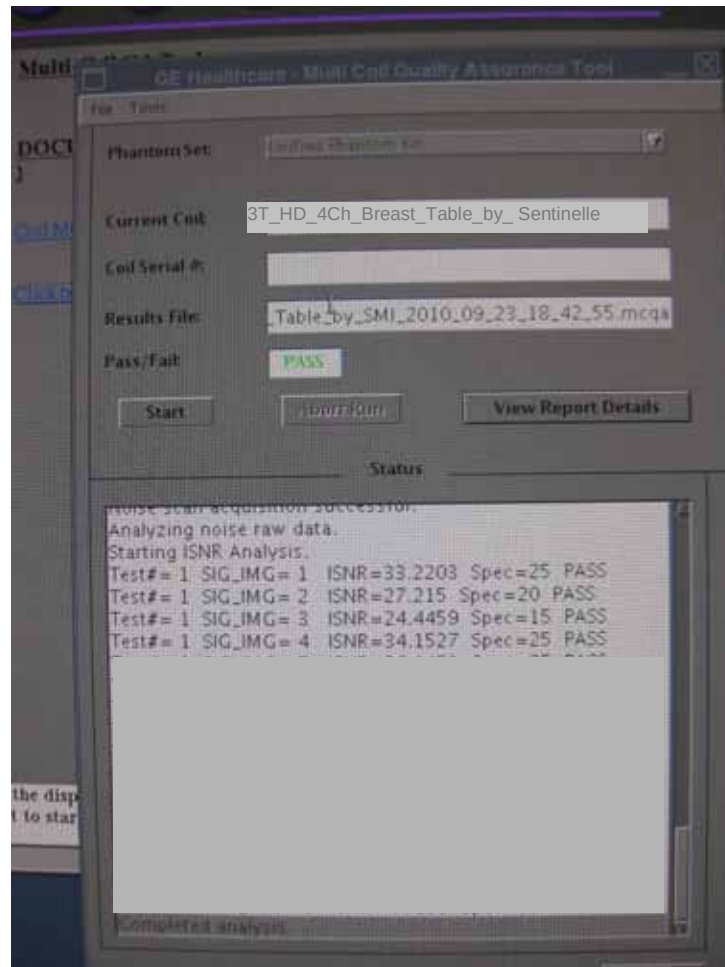

Figure 68: Screen Capture – MCQA Tool Finish
7. Click 'Start', and answer 'Yes' to the dialog box that opens. The MCQA program will run for approximately 10 minutes, and test each channel of the system independently. When the program finishes, the screen capture shown in Figure 68 will display.